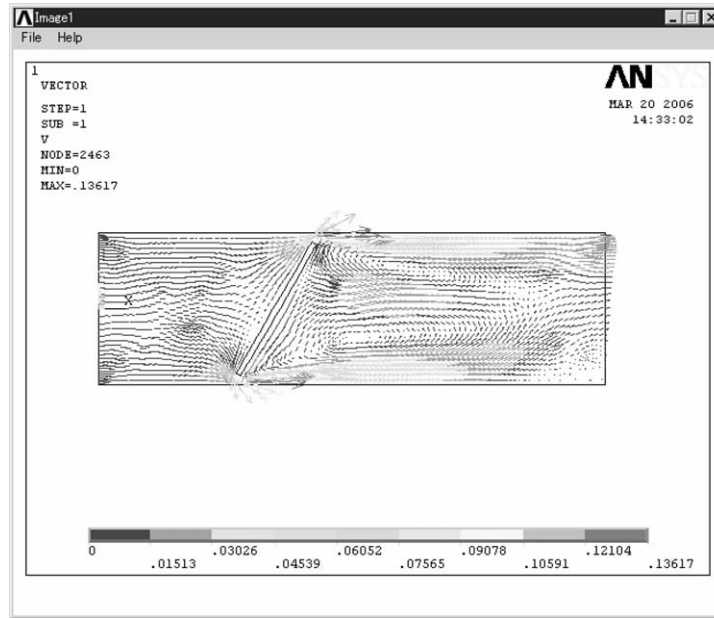

Figure 5.59 ANSYS Graphics window.
- (1) Select [A] **DOF solution** and **Velocity V** and click [B] **OK**.
- (2) The calculated result for velocity vectors appears on **ANSYS Graphics** window as shown in Figure 5.59.